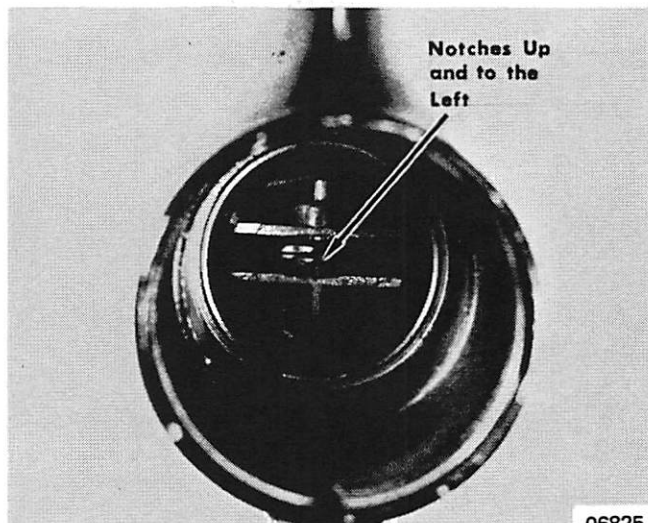

Figure 6. Installing Shifting Cam
10. Insert shifting cam into gear housing with notches up and to left when viewing in from skeg. Cam operates to right. (Figure 6)